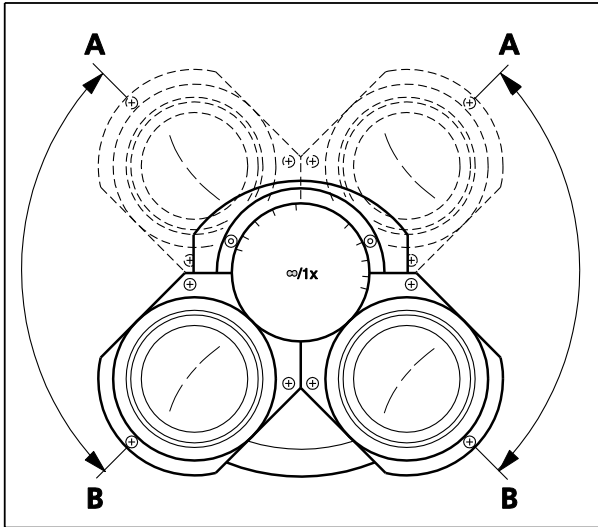

Fig. 2-12 Adjusting the Viewing Height on the Binocular Tube
- vary the viewing height by tilting the eyepiece tubes upward (Fig. 2-12/**A**) or downward (Fig. 2-12/**B**).